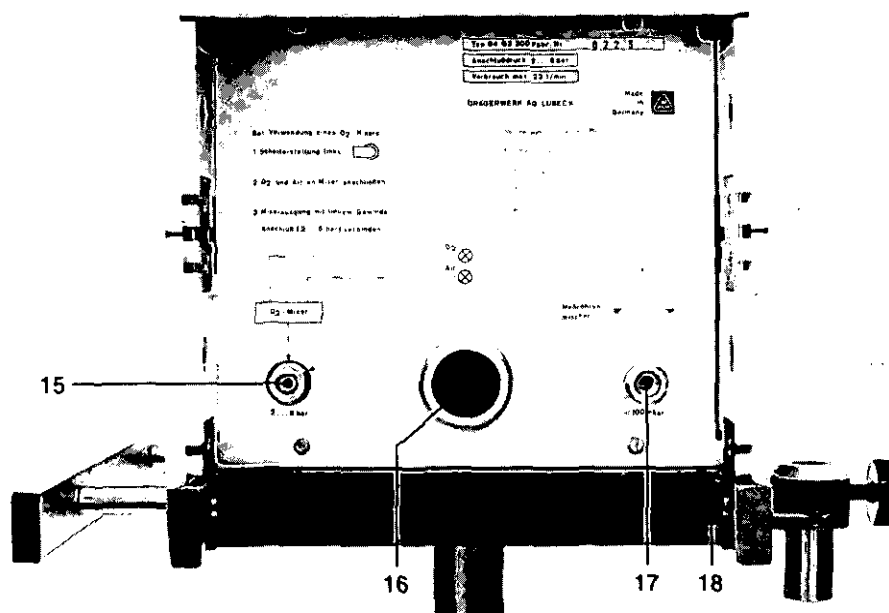

Fig. 2 Rear view of Babylog 1
- Attach the units to one another and to the carriage by means of the securing screws 18 (Fig. 2).